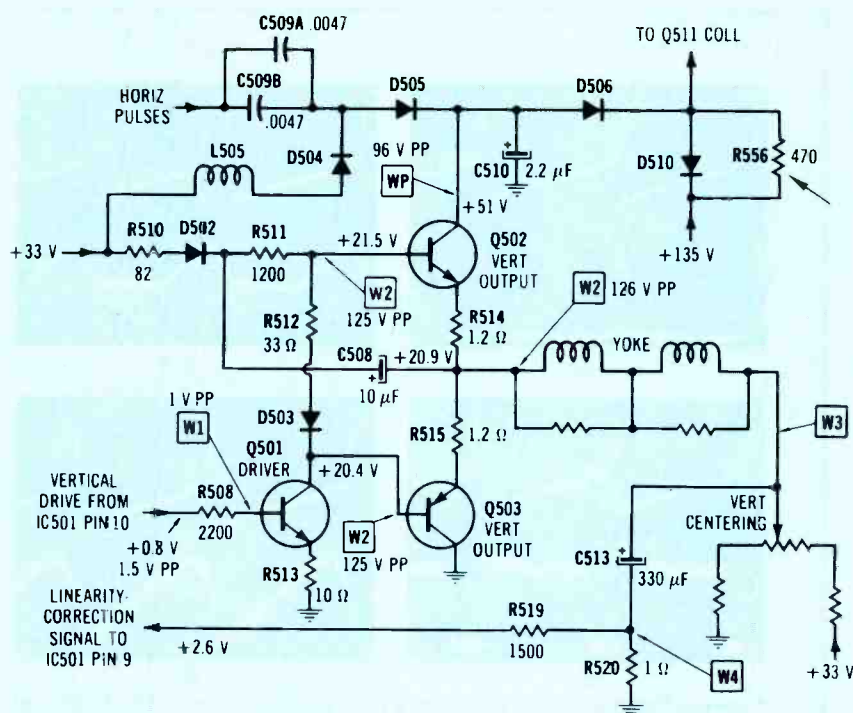

Figure 1 Correct voltages are shown for the Sony KV1712D vertical circuit.
Vertical centering in the Sony KV1712D is accomplished by adjustment of the dc current through the vertical-yoke winding (Figure 1 from Photofact 1699-2). VR503 vertical-centering control has about +22V at one end and about +16V at the other. VR503's center lug is connected to the yoke's cold end. Coupling capacitor C513 provides an ac path for the sweep signal through R520 to ground as it isolates the dc voltage and current. The yoke's hot end is connected directly to the vertical-sweep signal at R514, R515 and the output-transistor emitters.
Figure 4 These incorrect waveforms were scoped in the KV1712D vertical circuit during troubleshooting steps. (A) Top trace is W2 in Figure 1, the waveform of the vertical-output signal. Bottom trace shows the positive-going pulses at the Q502 collector (waveform WP). (B) Top trace again is the W2 vertical-output waveform, while the bottom trace shows the Q502 emitter current. The sawtooth's rising edge should be straight, not rounding (see Figure 7B). (C) Top trace is W2 output waveform. Bottom trace shows the excessively broad negative-going W1 pulses at the Q501 base. Notice that the output step and the base pulses have the same width. (D) The W2 output pulses are shown by the top trace, while the W4 yoke-current waveform (taken across R520) current should be straight (see Figure 7C). The rounded edge of yoke current has the same width as the step in the output waveform.
Several important dc voltages were completely out of tolerance. The Q502 collector should have about +50V, but this one had only +31V. Could the +50V figure be a misprint? After all, the Q502 collector is supplied from the +33V source through several chokes and diodes. Perhaps the additional +17V should come from the +135V supply through R556 (which now is disconnected) and D506. Although the reasoning appears promising, there is a barrier. Unless the polarity of D506 is drawn incorrectly (see Figure 1), D506 is reverse biased because +135V is far greater than +33V, and diode current cannot flow.
Measurements using the voltage-drop diode test (in a Beckman digital meter) verified that diodes D502, D504, D505, D506 and D510 were not defective. Also, they were shown with correct polarity in Figure 1 and Photofact 1699-2. Unfortunately, the question remained unanswered: *What is the source of the missing +18V at the Q502 collector, and why is this voltage missing?*
When power was applied to the receiver, *a full picture was obtained, and the waveforms returned to normal* (Figure 7). Even more surprising was the +51V measured at the Q502 collector. The voltage doubler was operating correctly, giving the voltages shown in Figure 1.